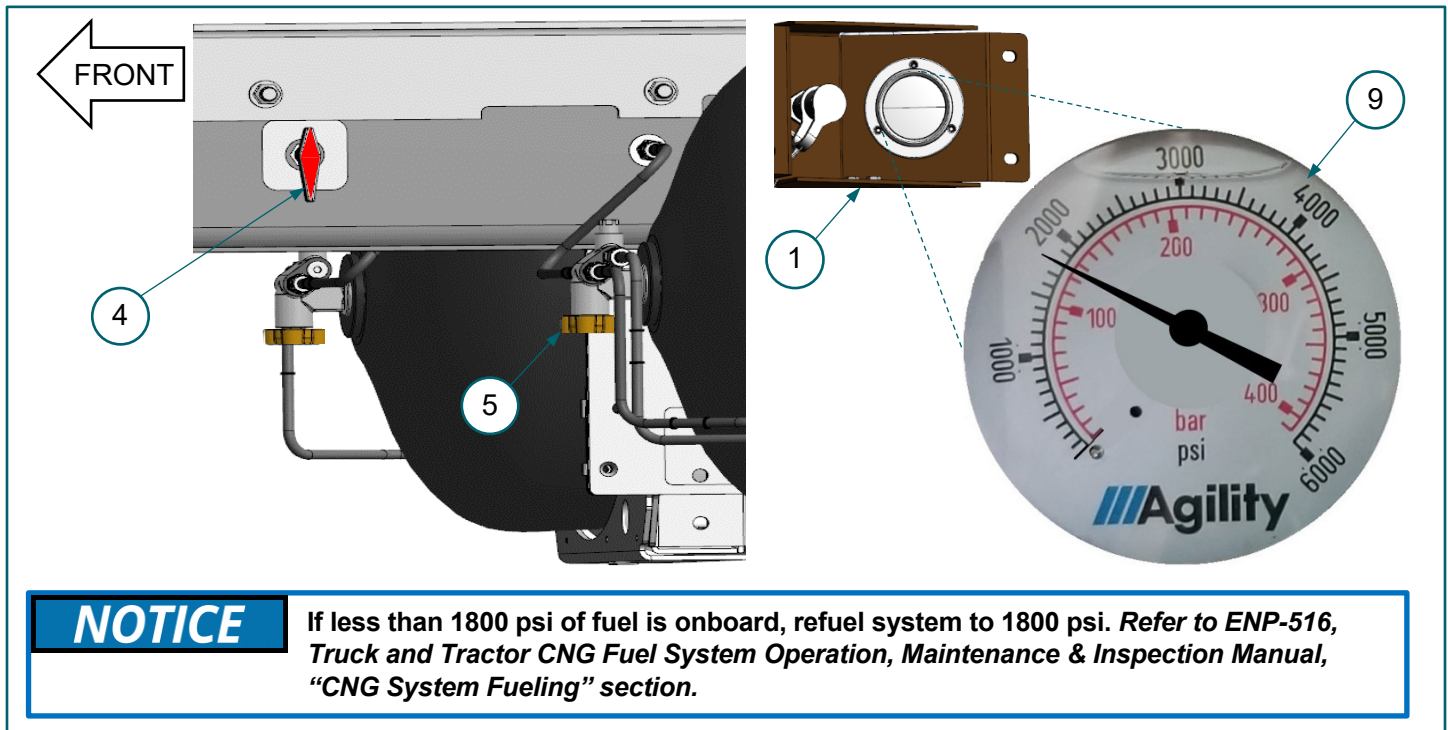

FIGURE 4–5. Fuel fill panel, (9) HP gauge reading 1800 psi, (4) 1/4-turn manual shutoff valve, (5) DS cylinder manual valve
- With an assistant, open DS cylinder manual valve while observing HP gauge on fuel fill panel until it reads 1800 psi (12.4 MPa) and close the manual cylinder valve. **FIGURE 4–5**